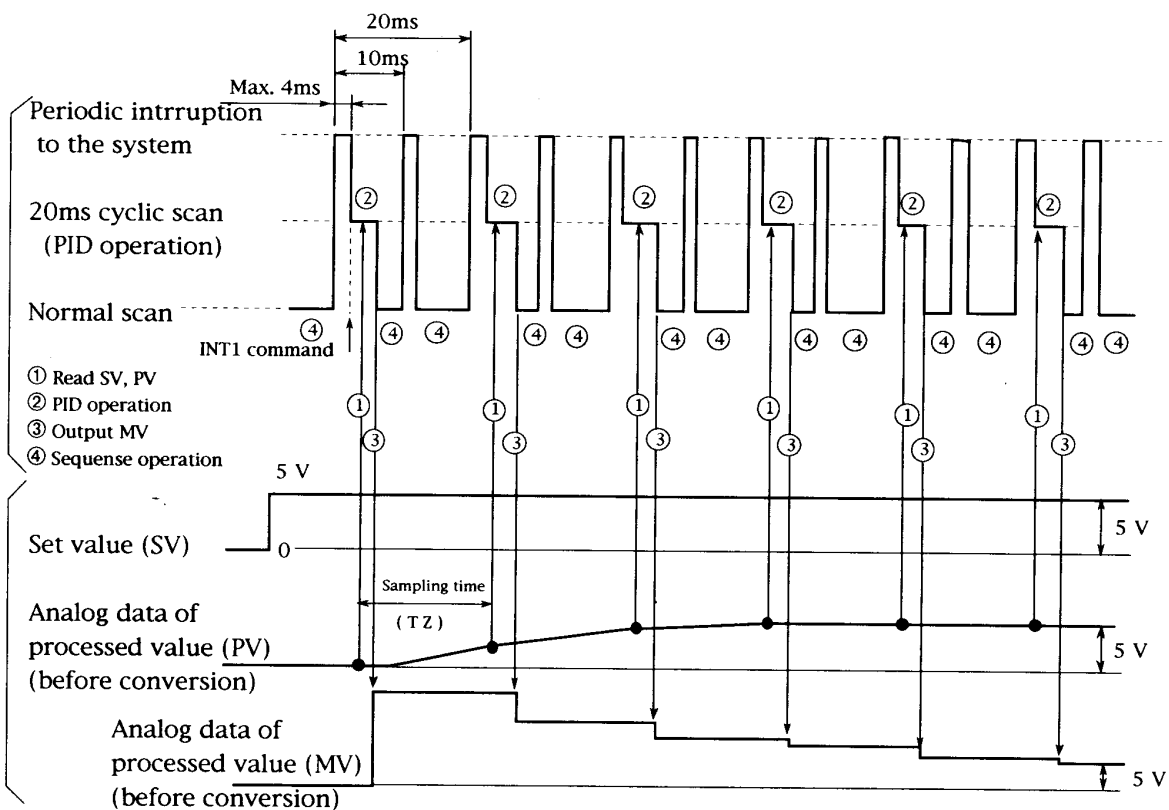

Figure 2.2.6 20ms cyclic scan operation (a) by H-252, and state of variations in outputs caused by PID operation.
H-252 is able to execute PID processing and the sequence processing in parallel, as shown in FIGURE 2.2.6.
(Notes) In Figure 2.2.6 ① and ② (read and write of analog signals) are assumed without any time lag for simplicity of explanations. The following time laggings will exist in actual systems.